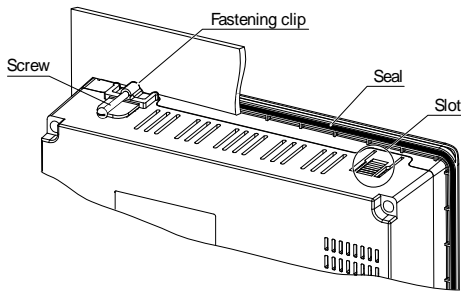

Fig. 3
- Make sure that the device is provided with the mounting seal (see Fig 3).